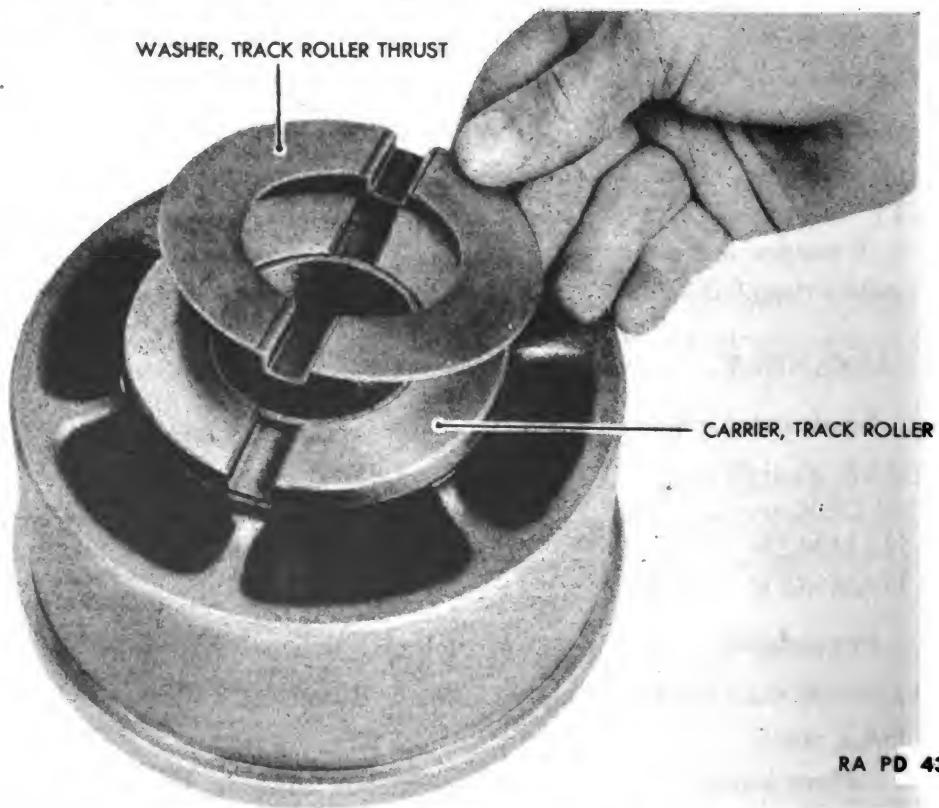

Figure 146 – Track Roller Carrier Thrust Washer Installation
(4) INSTALL TRACK ROLLER CARRIER THRUST WASHERS (fig. 146).